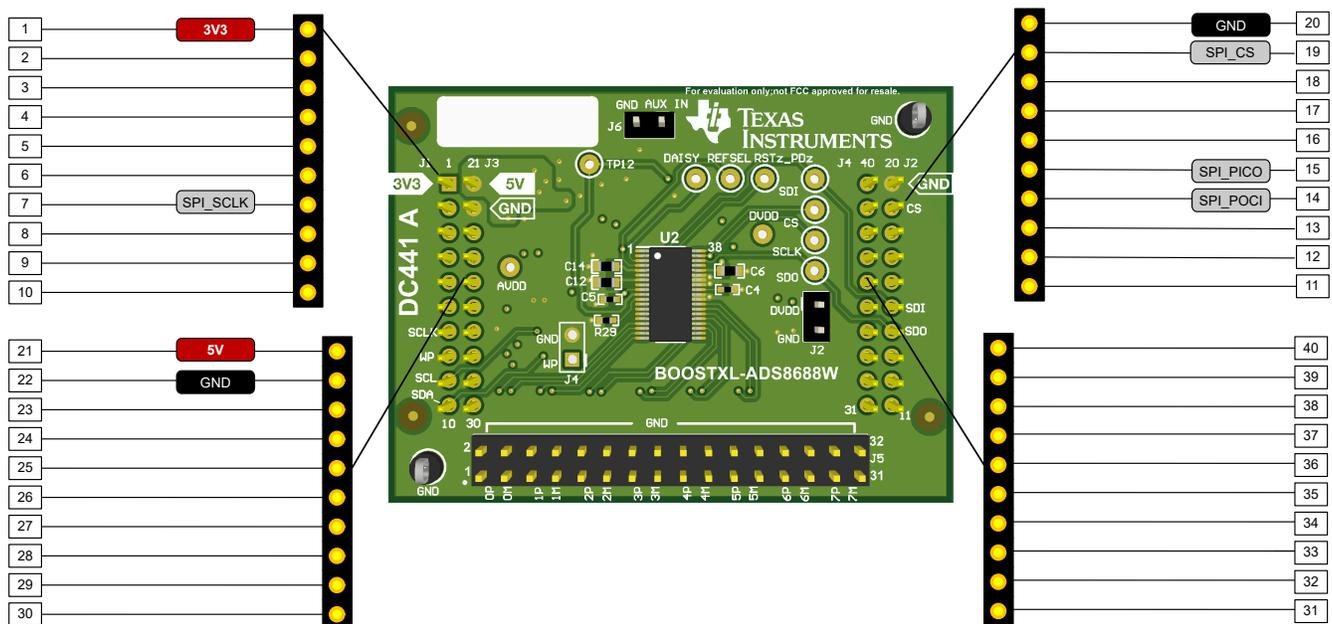

Figure 1-1. Interface Pinout
- b. For evaluation with an existing controller, use Figure 1-1 as a guide to connect to the BoosterPack and, if applicable, use the example code as reference.